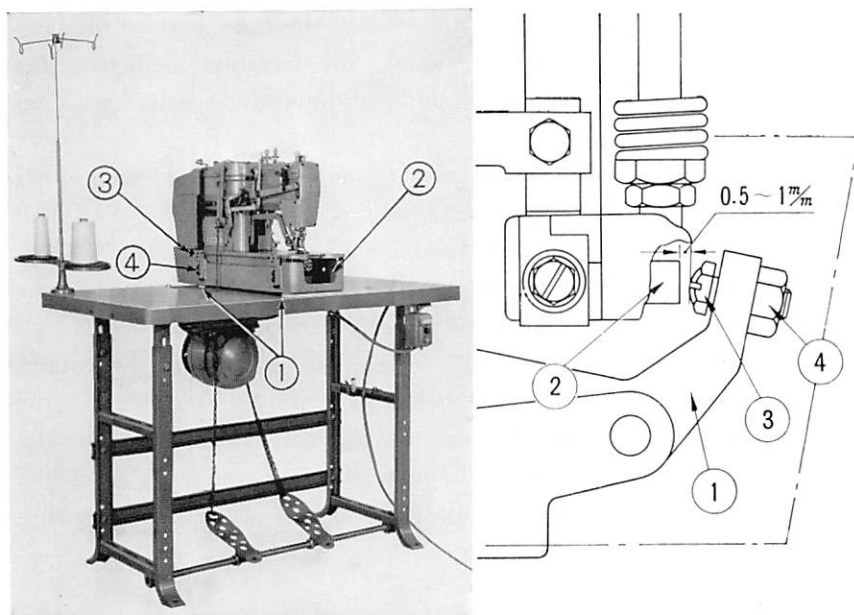

Fig. 2
Turn the table over in an upright position and, as shown in Fig. 2 (A), place the felt pads ① in line with the 4~7 $\phi$  holes of the table and install the machine arm ② on top of it.
As shown in Fig. 2 (A), place the machine head on top of the head base, insert the hinge arm ③ to the hole on the left side of the bed and interlock this with the hinge shaft bushing ④. Lastly, install the belt guard with the hinge at the rear end of the machine bed.
After the machine arm is installed, adjust the starting lever set screw in the following manner: (Fig. 2 B)
See Fig. 2 (A) on how to put on the chain.